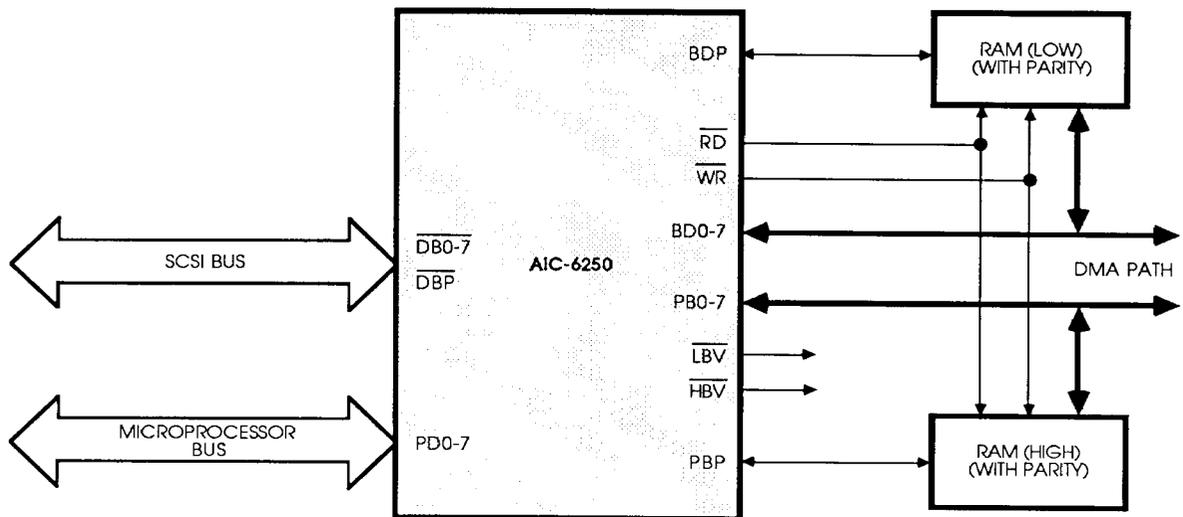

FIGURE 9. 16-BIT MEMORY INTERFACE USING PORT B
The AIC-6250 will work well with a DMA control device to improve overall system performance by transferring data to or from the system bus at very high data rates. The DMA interface of the AIC-6250 is capable of achieving data transfer speeds of up to 20 Mbytes per second when used in the 16-bit mode (a two-byte transfer every 100 nanoseconds), as shown in Figure 9.
2. Alternatively, Port B may be used as the upper byte of the 16-bit memory bus. When Port B is used as the high byte of the memory data transfer, the AIC-6250 will not assert the BREQ signal until two bytes of data are in the FIFO unless odd start or odd end condition is present. The AIC-6250 can transfer two bytes of data to or from the system data bus once every 100 ns, providing a 20 Mbyte/second transfer rate. System performance is therefore increased through no loss of system data bus bandwidth. Figure 9 shows the AIC-6250 configured for a 16-bit memory interface.